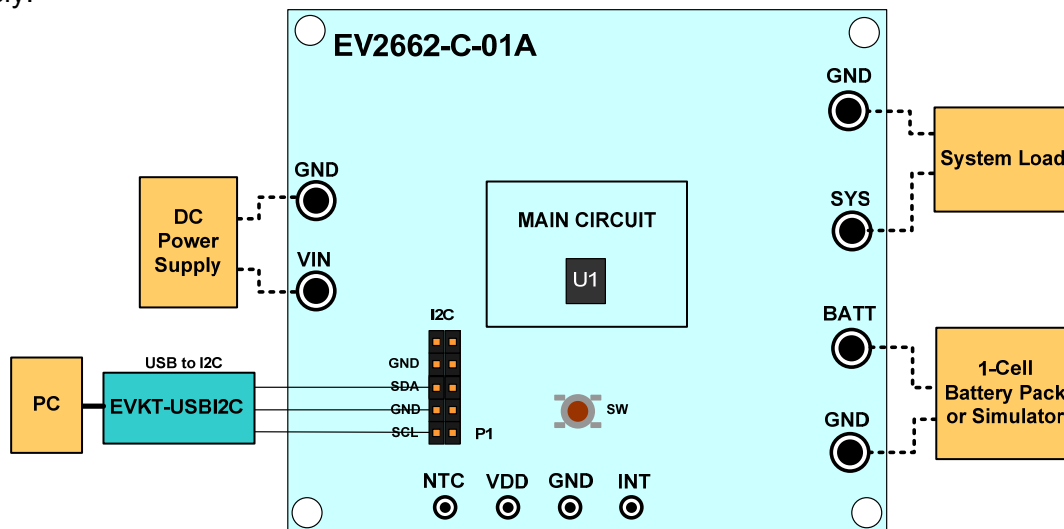

Figure 2: Test Setup for MP2662
4) Original Test Setup for MP2662 in Figure2.